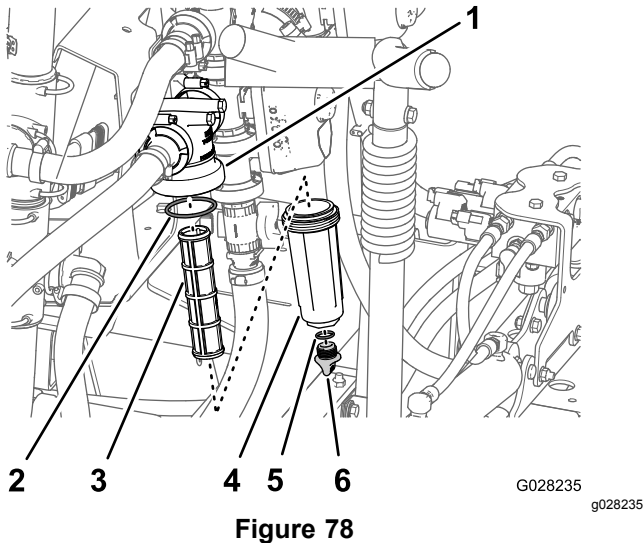

Figure 78
2. Align a drain pan under the pressure filter (Figure 78).
3. Rotate the drain plug counterclockwise and remove it from the bowl of the pressure filter (Figure 78).
4. Rotate the bowl counterclockwise and remove it filter head (Figure 78).
5. Remove the old pressure filter element (Figure 78).
6. Check the O-ring for the drain plug (located inside the bowl) and the O-ring for bowl (located inside the filter head) for damage and wear (Figure 78).
7. Install the new pressure filter element into the filter head (Figure 78).
8. Install the bowl onto the filter head hand tight (Figure 78).
9. Install the plug into the bowl hand tight (Figure 78).